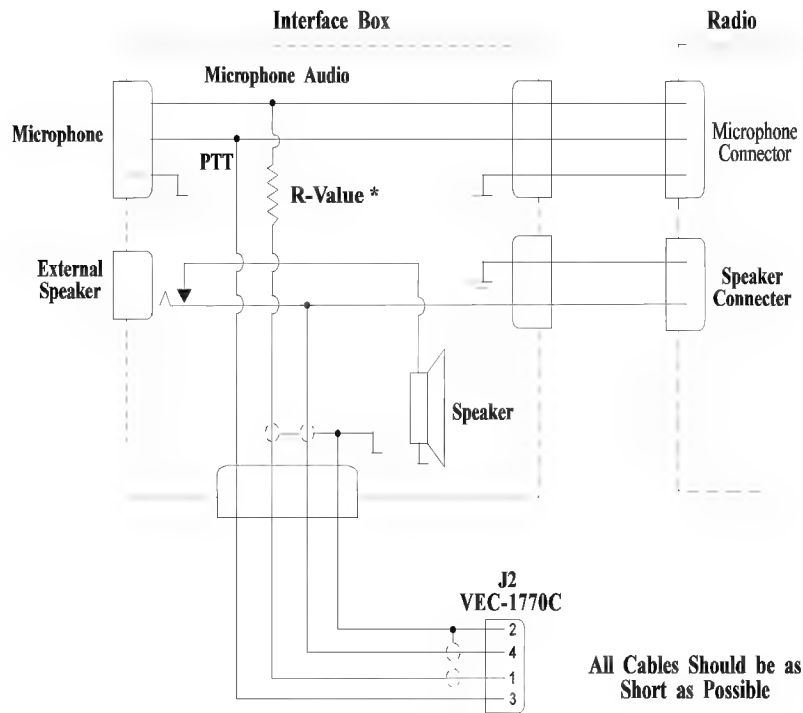

Fig. 3-7 External Interface Box
If your radio does not have an accessory jack and you don't wish to add a connector to your radio, you may construct a separate external interface box. This box will permit simultaneous connection of your TNC2 and a microphone. A schematic of an external interface box is shown in Fig. 3-7.
An interface box similar to the one shown in Fig. 3-7 is available from MFJ Enterprises, Inc. or from any MFJ dealer. Model No. is MFJ-1272B.
If you built the external interface box as in Fig.3-7, then follow this procedure to adjust R(s).
2. Temporarily solder a variable resistor in place of **R-Value\*** Fig. 3-7. The maximum value of this resistor must be determined by experiment, but 500K should handle most cases. Connect your TNC2 to the radio. Connect the microphone to the radio, or to the interface box if one is being used. Connect the radio to a dummy load and listen to the transmission